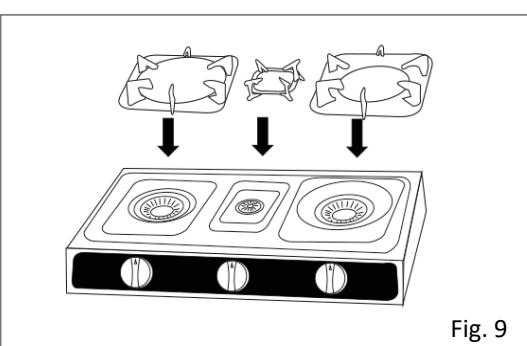

Fig. 9
2. When unpacking, make sure that all of the parts of the gas cooker are included. Assemble the parts as shown in. (Fig. 9)